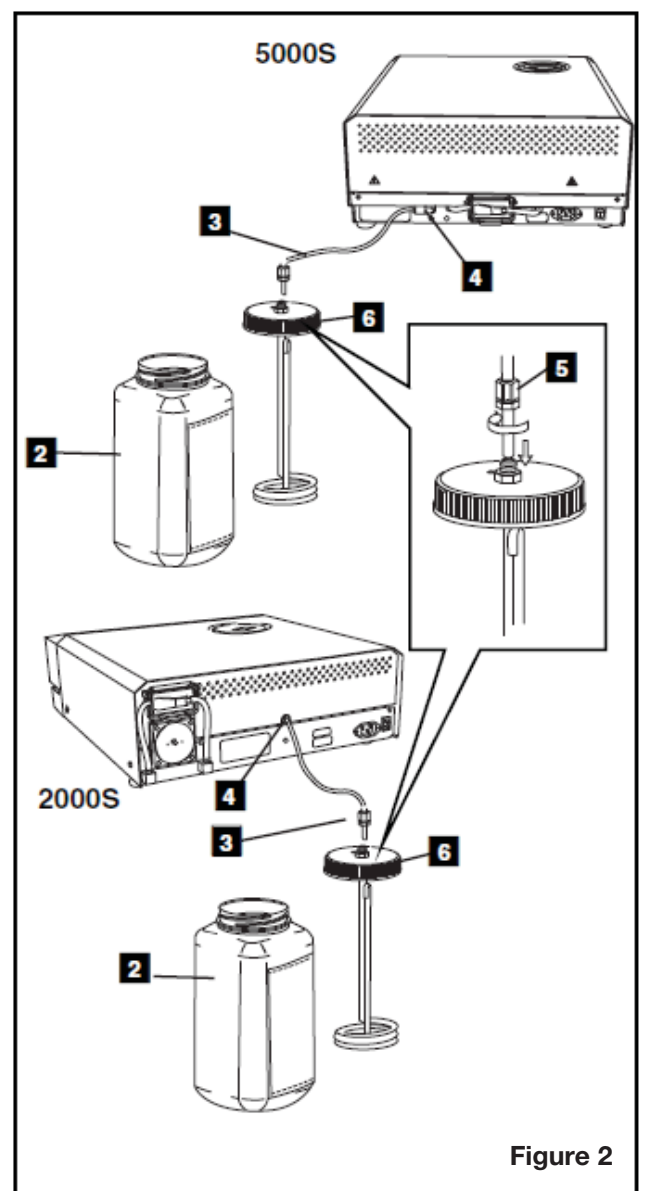

Figure 2
The waste bottle (2) is used to collect the wastewater after it has been converted to steam and then drained from the cassette. To connect the waste bottle to the STAT/IM, follow these steps (see Figure 2):
1. Insert the exhaust (3) tube into the fitting (4) on the back of the unit and connect tightly.
2. Cut the tube to length and slide the waste bottle fitting (5) into place.
4. Unscrew the lid and copper condenser coil (6) assembly from the waste bottle. The lid and coil should come out together.